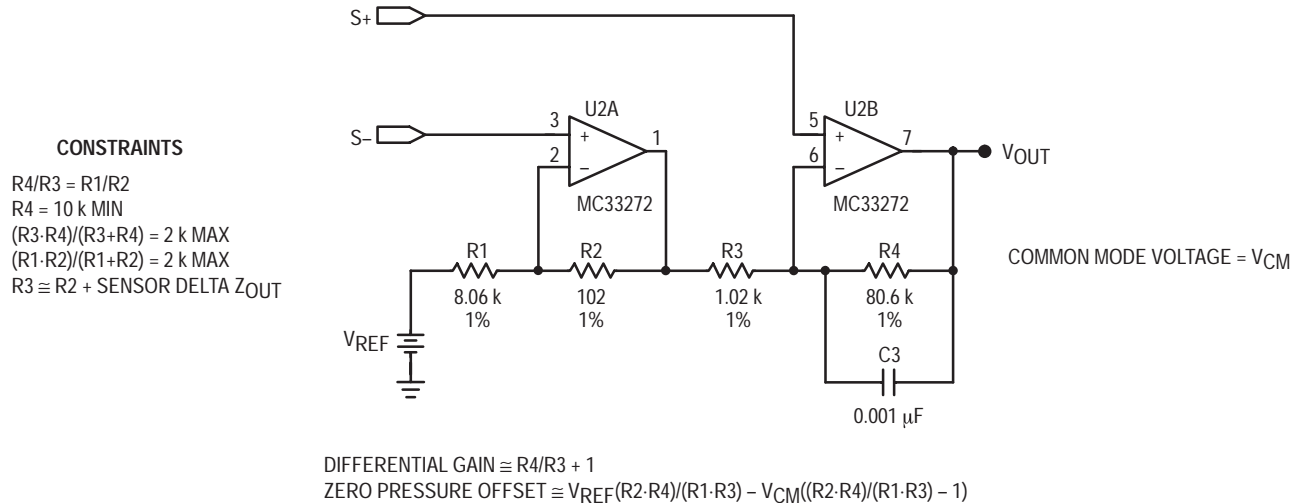

Figure 5. Amplifier — Simplified Schematic
To see how this amplifier works, let's simplify it in Figure 5, assume that the voltage source labeled V_{REF} is zero, and set the differential input voltage to zero. If the common mode voltage at sensor inputs $S+$ and $S-$ is 5.0 volts, then pin 2 of U2A and pin 6 of U2B are also at 5.0 volts. This puts 5.0 volts
The foregoing nodal analysis can be summarized by the following two equations, which are first order approximations. Equation (1) assumes that the differential input between $S+$ and $S-$ in Figure 5 is zero, and that V_{CM} is the common mode voltage at $S+$ and $S-$.
(1) ZERO PRESSURE OFFSET